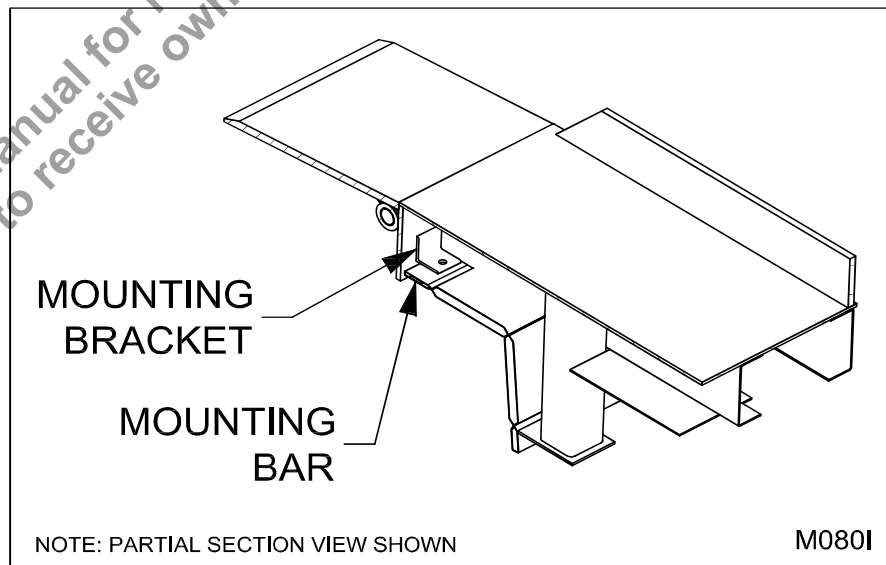

Figure 36: Bottom Curtain Bracket
4. Position the bottom curtain laterally centered on the underside of the deck assembly. Align the mounting holes located at the top hem of the bottom curtain with the holes of the mounting brackets located on the underside of the deck near the headboard as shown in Figure 36: Bottom Curtain Bracket on page 28.